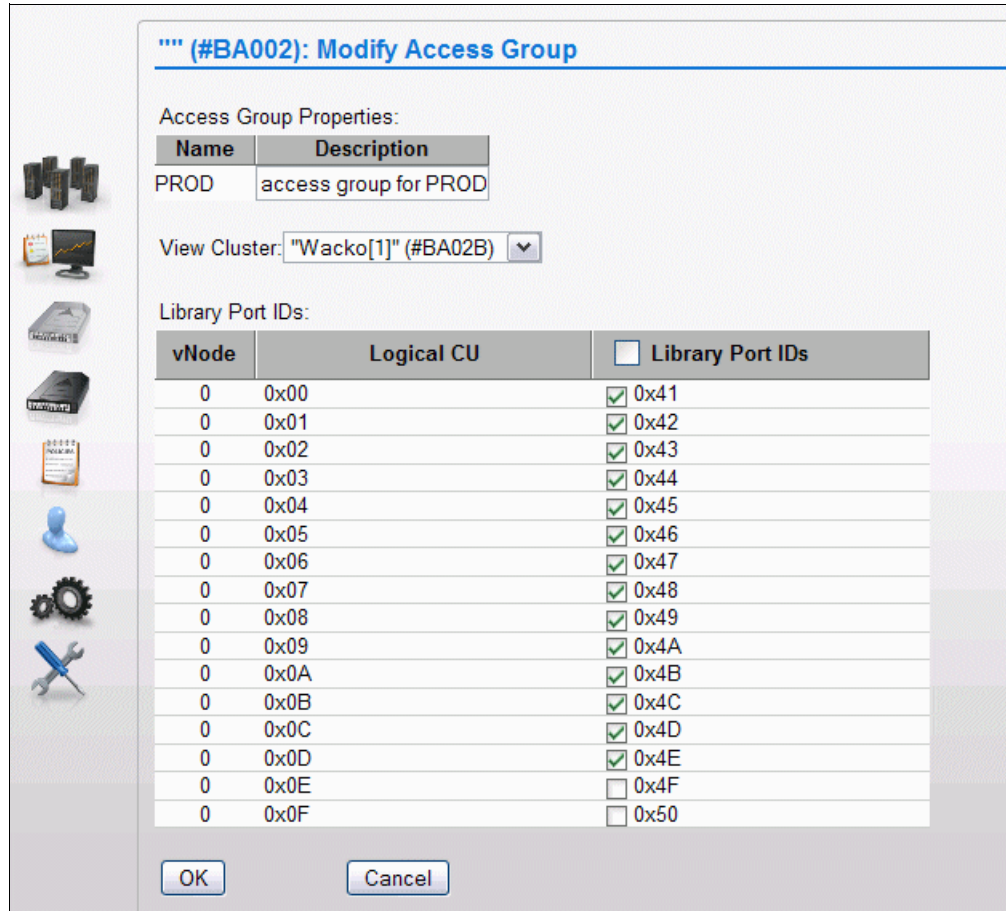

Figure I-13 Modify the access group for PROD LPAR
4. Define 41-4E on Cluster 1 as shown in Figure I-13.